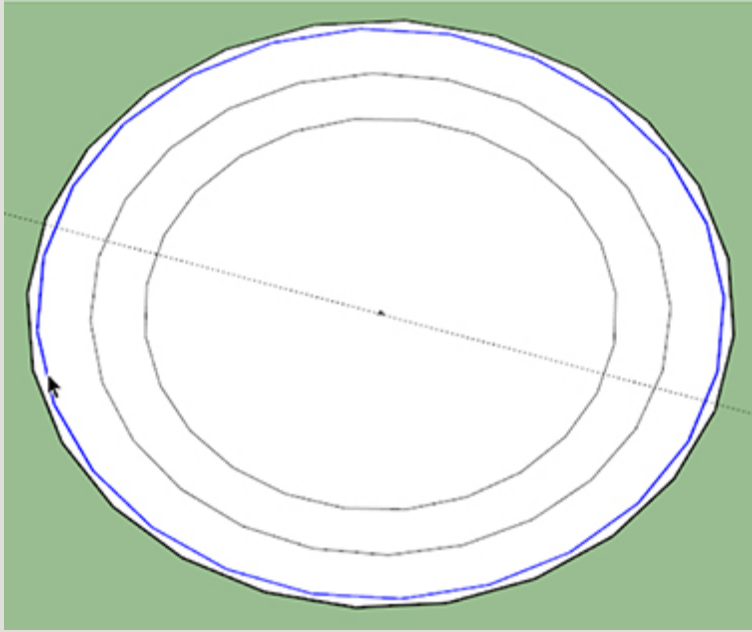

Figure 3-110 Draw the lid.
7. Draw a 4" circle for the lid (Figure 3-110). Then draw a larger circle slightly outside it and two circles inside it. Delete the original 4" circle when finished.